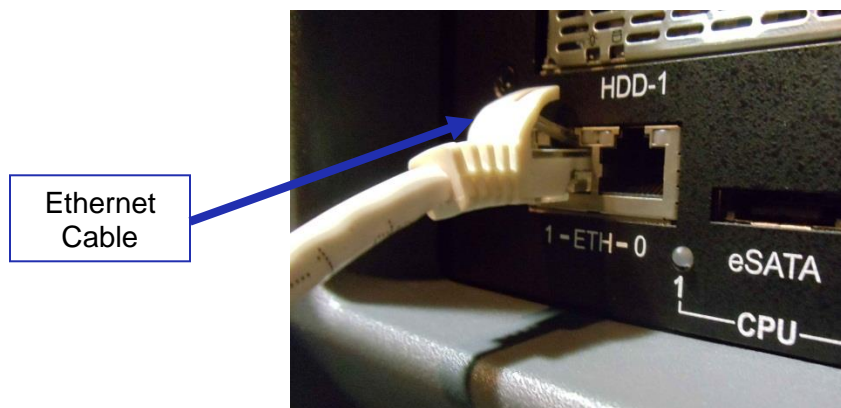

Figure 25: Ethernet Connector
- Connect an Ethernet cable to the Ethernet connector on the IMS1000 and the other end of the cable to either a laptop or network switch (Figure 25). Install a ferrite core clamp near the connector closest to the IMS1000. Refer to Section 25 for more information on ferrite core clamp installation.